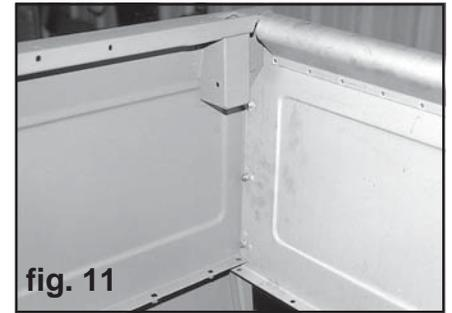

fig. 11
1. Bolt the modified steel floor front bed panel or new wood floor front bed panel to both bed sides. See figure 11.